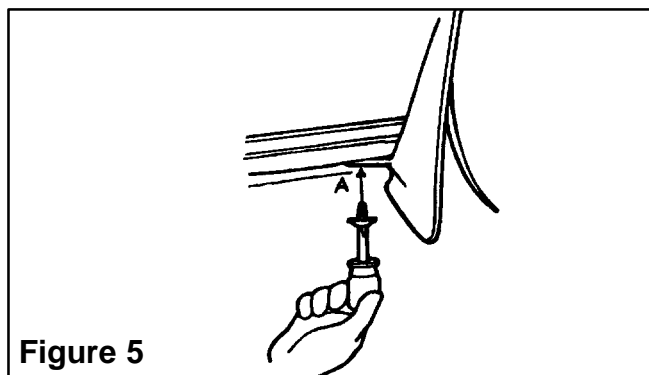

Figure 5
5. Reinstall the antenna assembly. Be sure to install the external antenna nut (escutcheon) first. Then install the nut which holds the assembly to the inner bracket (Fig. 5).
5. Using a screw and washer (supplied in the kit), install the mudguard at point A and tighten down screws (See Figure 5).